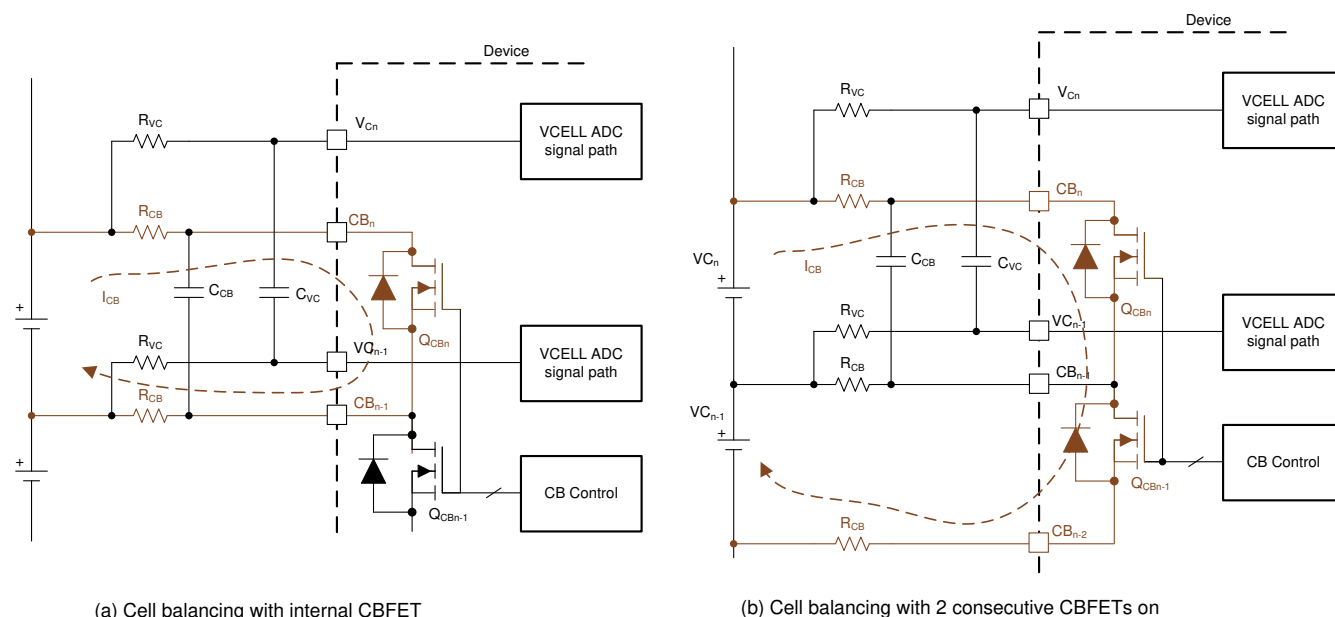

图 8-14. Internal Cell Balancing and the Flow of Balancing Current
- Balancing with no consecutive CBFET on (图 8-14 (a)): $I_{CB} = V_{Cell} / ((2 \times R_{CB}) + R_{dson_{QCB}})$
- Balancing with two consecutive CBFETs on (图 8-14 (b)): $I_{CB} = (\text{Sum of two } V_{CELL}) / ((2 \times R_{CB}) + R_{dson_{QCBn}} + R_{dson_{(QCBn-1)}})$
- Manual balancing control (*[AUTO_BAL] = 0*): With this method, the device will turn on the CBFETs that have non-zero balancing timer settings once *[BAL_GO] = 1* is received. There is no odd and even channel switching during the cell balancing and the *BAL_CTRL1[DUTY2:0]* setting does not apply under this control. Host MCU can enable two consecutive CBFETs with this method and a maximum of eight CBFETs can be enabled. When two consecutive CBFETs are enabled with both channels connected to battery cells, the balancing current is significantly different compared to no adjacent CBFET being on (图 8-14). The *DEV_CONF[NO_ADJ_CB]* bit is provided to avoid inadvertent enabling of an adjacent CBFET for a system that is not intended to have an adjacent channel on for balancing. In this control method, the device is relying on the MCU to enable the proper channels. If the MCU sends *[BAL_GO] = 1* but the CBFETs are enabled with an invalid condition, the device will not start balancing and will set *BAL_STAT[INVALID_CBCONF] = 1*. Invalid configurations are either: